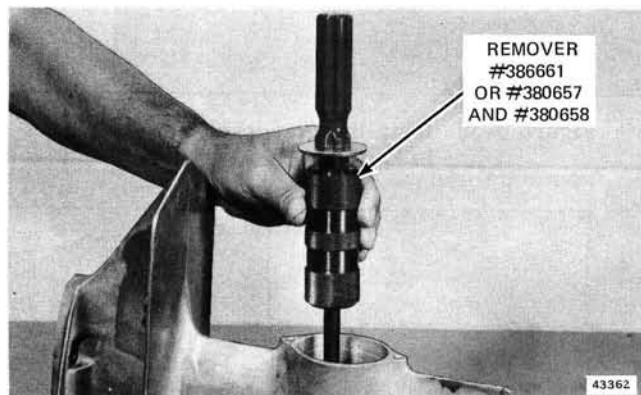

Figure 6-33. Removing Forward Bearing Cup
12. If forward roller bearing and cup are worn or pitted, use OMC Special Tool #386661 or #380657 and slide hammer #380658 to remove forward bearing cup. See Figure 6-33. Recesses are provided in gearcase to allow jaws of tool to engage cup.